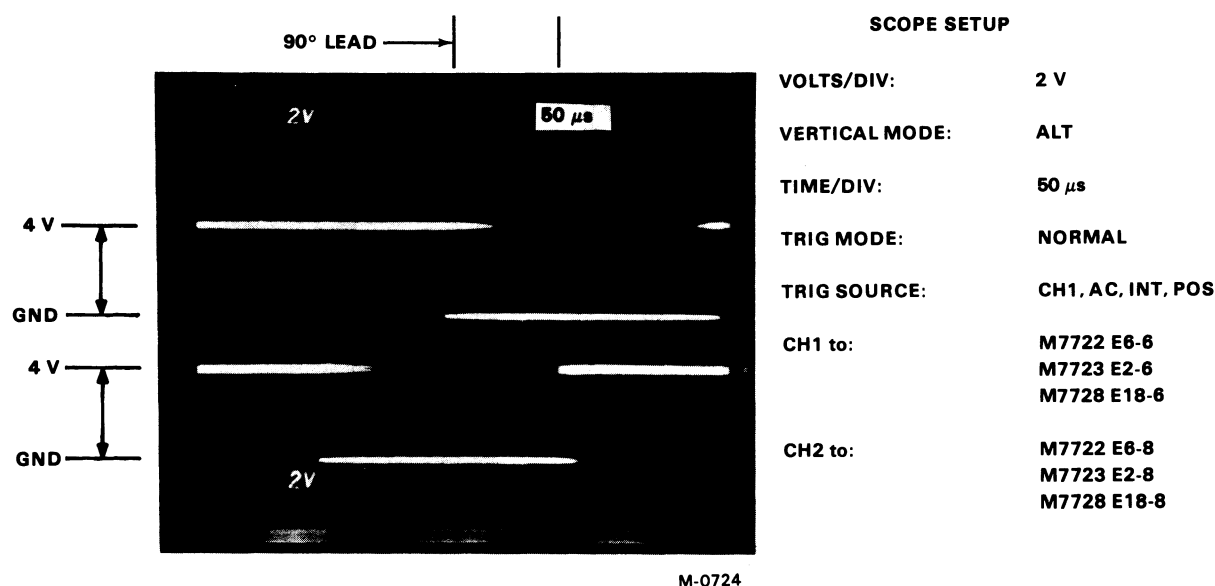

Figure 7-22 Encoder Phasing Adjustment
15. Set up the scope per Figure 7-22.
16. Channel 2 should lead channel 1 by 90 degrees ± 20 degrees (Figure 7-22). If not, loosen the two encoder screws, reposition the encoder subassembly as required, and tighten the screws. Glyptol R1 and R2.